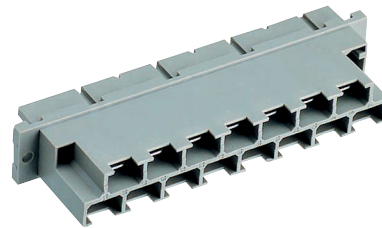

Fig. 42
- Mating H15 connectors with screw, solder, faston, or press-fit terminals, code key system and coding wedges HZZ00202-G; see fig. 42.